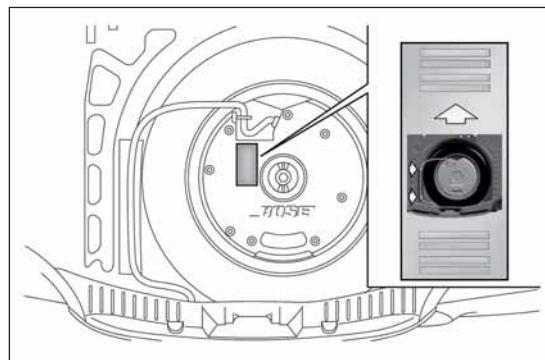

fig. 123
- ☐ reposition the container (with the arrow pointing forwards) in its housing and place the subwoofer on top of it, taking care to arrange it according to the indications on the container (fig. 123) so that the word "BOSE" is read in the correct position;